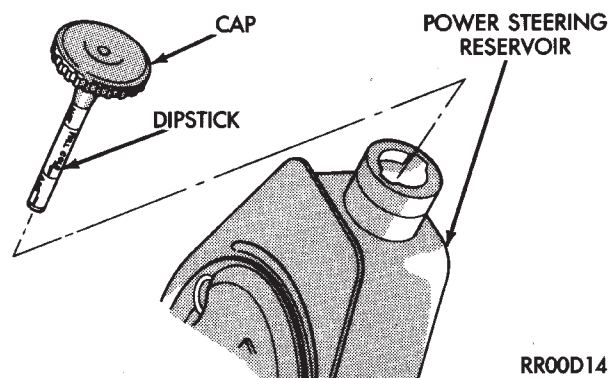

Fig. 4 Power Steering Reservoir Dipstick—2.2L or 2.5L Engine
- (1) Position vehicle on a level surface with engine at normal running temperature.
- (2) Turn OFF engine and remove ignition key.
- (3) Using a wiping cloth, clean oil and dirt residue from around power steering reservoir cap.
- (4) Remove reservoir cap or dipstick and wipe off fluid.
- (5) Install cap or dipstick.
- (6) Remove cap or dipstick. Holding handle or cap above tip of dipstick, read fluid level (Fig. 4, 5, or 6). Add fluid if reading is below cold level mark on dipstick.